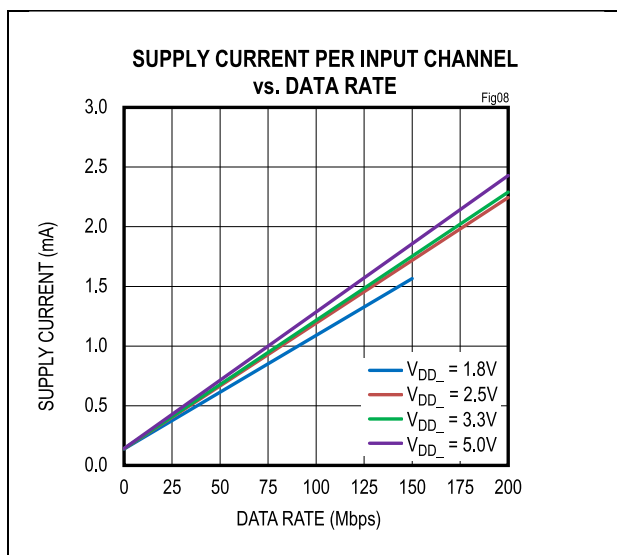
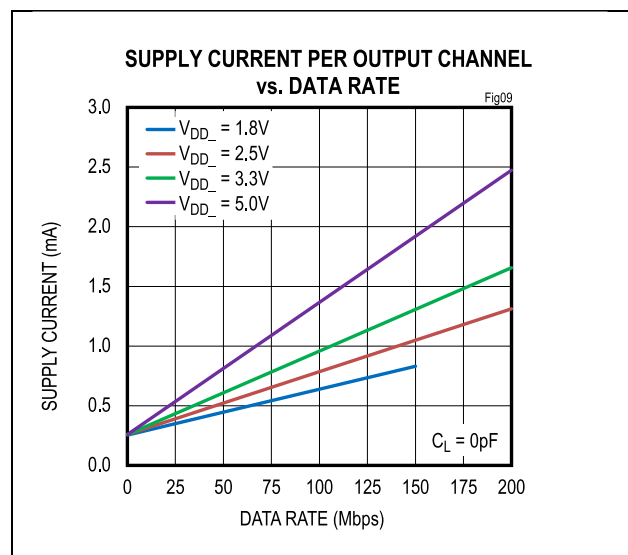

Figure 8. Supply Current Per Input Channel (Calculated)
Figure 9. Supply Current Per Output Channel (Calculated)
The required current for a given supply (V_{DDA} or V_{DDB}) can be estimated by summing the current required for each channel. The supply current for a channel depends on whether the channel is an input or an output, the channel's data rate, and the capacitive or resistive load if it is an output. The typical current for input or output at any data rate can be estimated from the graphs in Figure 8 and Figure 9. Note that the data in Figure 8 and Figure 9 are extrapolated from the supply current measurements in a typical operating condition.
The total current for a single channel is the sum of the no-load current (shown in Figure 8 and Figure 9) which is a function of voltage and data rate, and the load current, which depends on the type of load. Current into a capacitive load is a function of the load capacitance, the switching frequency, and the supply voltage.
- Channel 1 is an input channel operating at 2.5V and 20Mbps, consuming 0.35mA, estimated from Figure 8.
- Channel 2 is an input channel operating at 2.5V and 100Mbps, consuming 1.19mA, estimated from Figure 8.
- Channels 3 and 4 are input channels operating at 2.5V with DC signal, consuming 0.14mA, estimated from Figure 8.
- Channel 5 is an output channel operating at 2.5V and 50Mbps, consuming 0.52mA, estimated from Figure 9.
- Channel 6 is an output channel operating at 2.5V and 200Mbps, consuming 1.31mA, estimated from Figure 9.
- Channel 1 is an output channel operating at 3.3V and 20Mbps, consuming 0.40mA, estimated from Figure 9.
- Channel 2 is an output channel operating at 3.3V and 100Mbps, consuming 0.96mA, estimated from Figure 9.
- Channels 3 and 4 are output channels operating at 3.3V with DC signal, consuming 0.26mA, estimated from Figure 9.
- Channel 5 is an input channel operating at 3.3V and 50Mbps, consuming 0.68mA, estimated from Figure 8.
- Channel 6 is an input channel operating at 3.3V and 200Mbps, consuming 2.29mA, estimated from Figure 8.